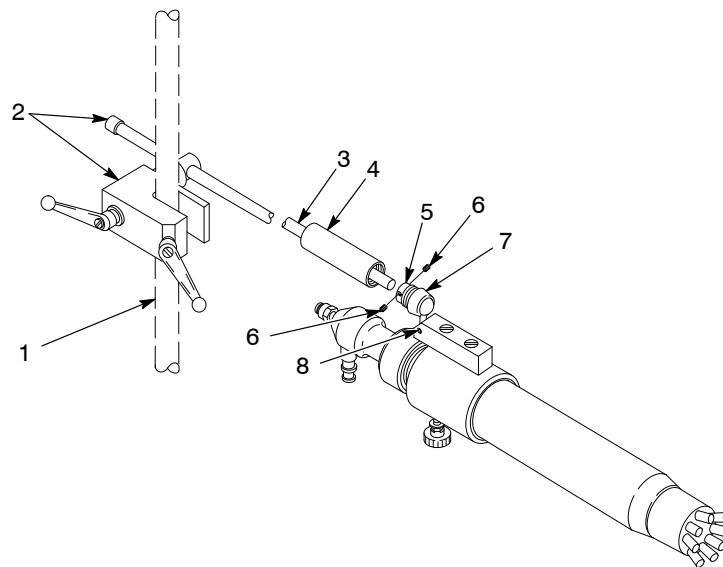

Figure 3-1 Mounting the Spray Gun
1. See Figure 3-1. Install the gun mounting bar assembly (2) on a fixed gun stand or oscillator arm (1).
2. Unscrew the adjuster (4) from the ball mount cap (7). Slide it over the end of the gun mounting bar (3).
3. Loosen the two set screws (6) in the ball mount flange (5). Slide the end of the mounting bar into the flange. Tighten the set screws.
5. Make sure the M6 x 8 set screw (8) is tightened.